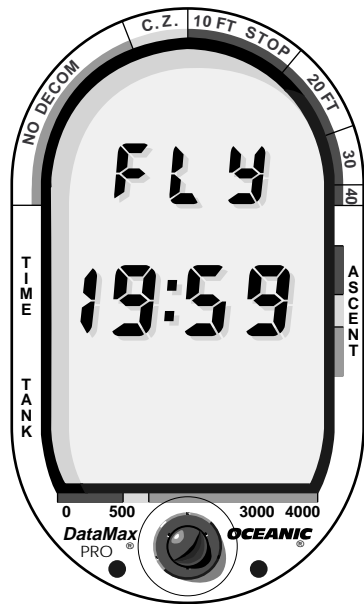

Fig. 16 – Time to Fly Mode
**The longer you wait to fly after diving, as you should be aware from your own training, the more you will reduce your exposure to decompression sickness.** The Time To Fly Mode begins displaying four hours after the last dive has ended to assist you with deciding when enough surface time has elapsed to fly. It is part of the Pre Dive Planning Sequence and shows the word “FLY” with a countdown timer below that starts at 20 hours (Fig. 16).